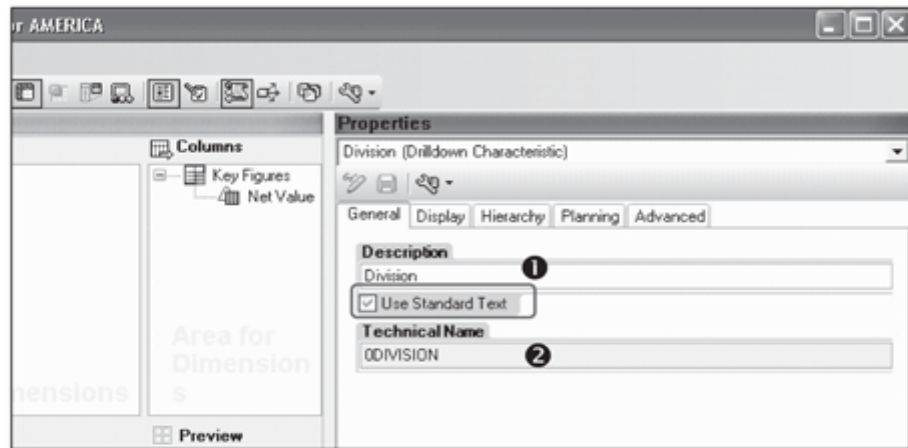

Figure 9.68 Characteristic Properties – General Tab
The properties for the selected characteristic element will appear in the Properties screen area as shown in Figure 9.68. There are five different tabs available. Let's discuss each of these tabs one by one.
In the General tab (see Figure 9.68), you maintain the description of the characteristic of that query. The same description (❶) will be visible in the query output when the query is executed. If you select the Use Standard Text checkbox, the description as mentioned in the InfoObject definition is selected.